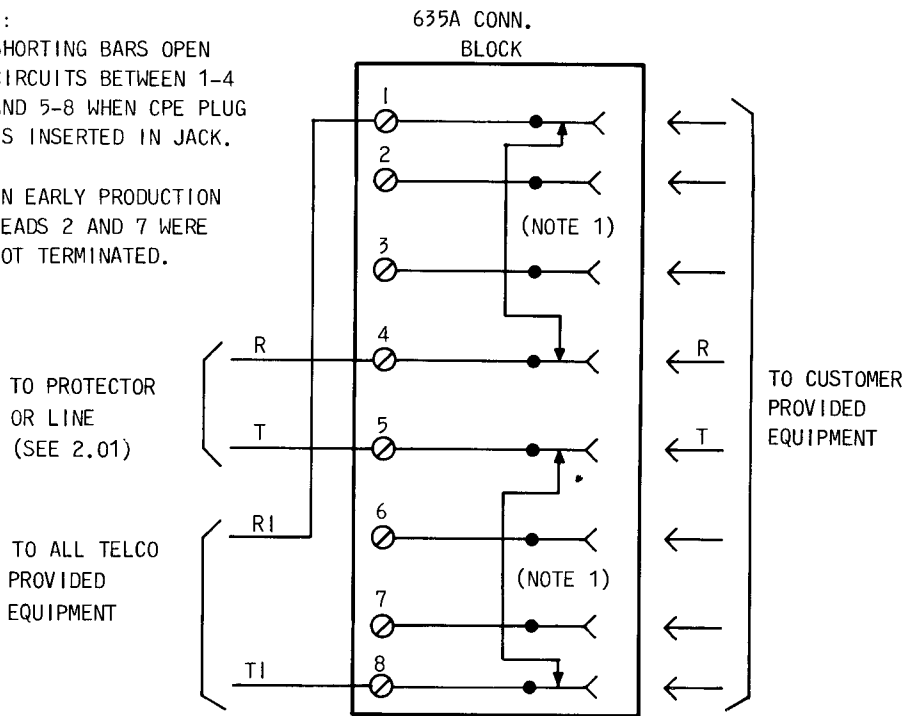

Fig. 1—Connections for USOC RJ31X
**2.01 USOC RJ31X:** This arrangement is wired so that when the CPE is plugged into the 635A connecting block, the CPE is placed in series with the tip and ring of the line (Fig. 1). When the CPE plug is removed, tip and ring are cut through to the station equipment. *The 635A*